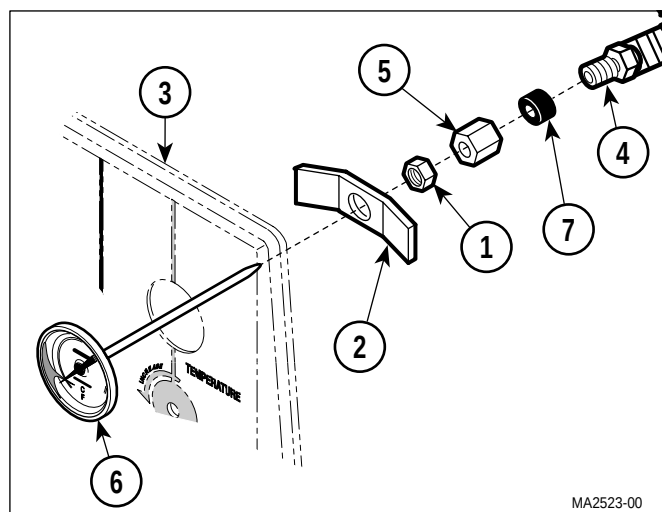

Figure 4-11. Temperature Gauge Removal / Installation
- (1) Remove cover assembly (Refer to para 4.2).
- (2) Loosen nut (1, Figure 4-11) and slide retaining bar (2) away from front panel (3).
- (3) While holding connector (4), loosen compression nut (5).
- (4) Pull temperature gauge (6) out of connector (4).